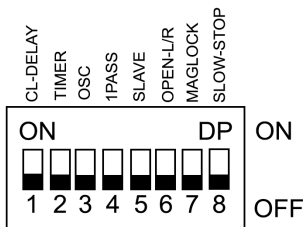

Figure 1
1. On the Secondary gate operator circuit board, set dip switch #5 to ON (Figure 1).